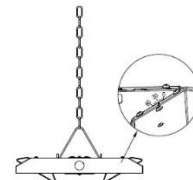

Figure 2
4. Rotate the light panels to the desired angle (outward rotation up to 135°) (Figure 2).